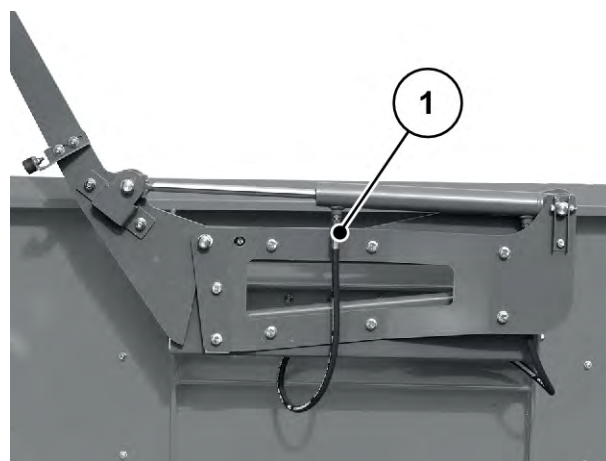

Fig. 102: Hopper cover hydraulic cylinder
- The hydraulic cylinders of the hopper cover drive, Fig. 102 Hopper cover hydraulic cylinder